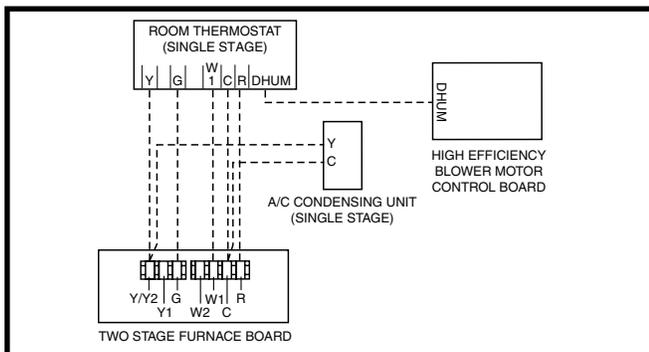
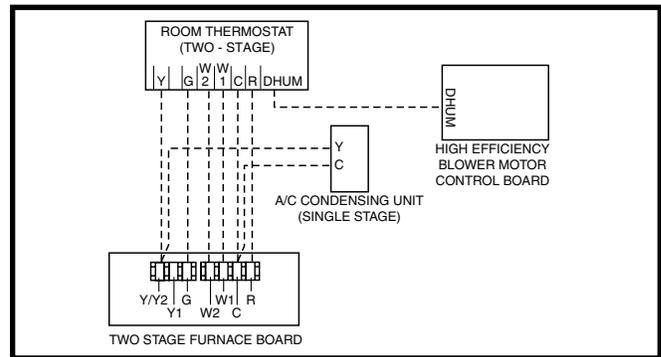
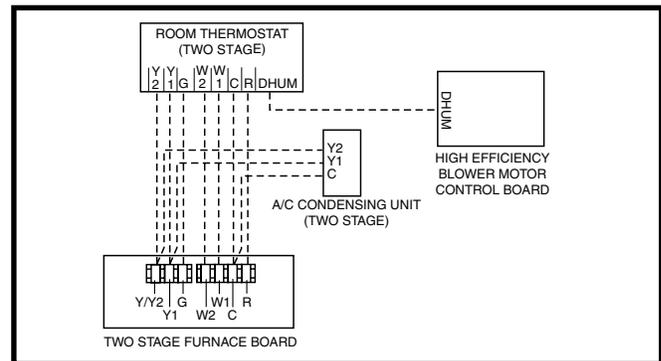

Figure 15. Wiring Configuration 1
Figure 16. Wiring Configuration 2
Figure 17. Wiring Configuration 3
- Connect the thermostat's W output to the furnace control boards W1 terminal. This allows the furnace to always run in low output mode. See Figure 15.
This option uses the full two-stage heating capability of the furnace with a single stage outdoor unit. See Figure 16.
This option uses the full two-stage heating capability of the furnace with a two-stage outdoor unit. See Figure 17.
The Autostaging feature included make it possible to use a single stage thermostat and still receive some of the benefits of 2-stage furnace operation. If Autostage is enabled, the furnace will drop to **LOW** fire after initially starting in **HIGH** fire. After a period of 10 minutes, the furnace will then stage up to **HIGH** fire, until the heating load is met. See Figure 15 and the Thermostat / Low Voltage Connection section.
- √ Verify that all needed thermostat wires are securely connected to the correct leads on the terminal strip of the circuit board. See Figure 15, \(page 20\), Figure 16, \(page 20\), & Figure 17, \(page 20\).
The operating sequences for the heating, cooling, and fan modes are described below. Refer to the field and furnace wiring diagrams: Figure 14, (page 19) , Figure 15, (page 20), Figure 16, (page 20), Figure 17, (page 20), Figure 25, (page 29), Figure 26, (page 30), Figure 27, (page 31), and Figure 28, (page 32).